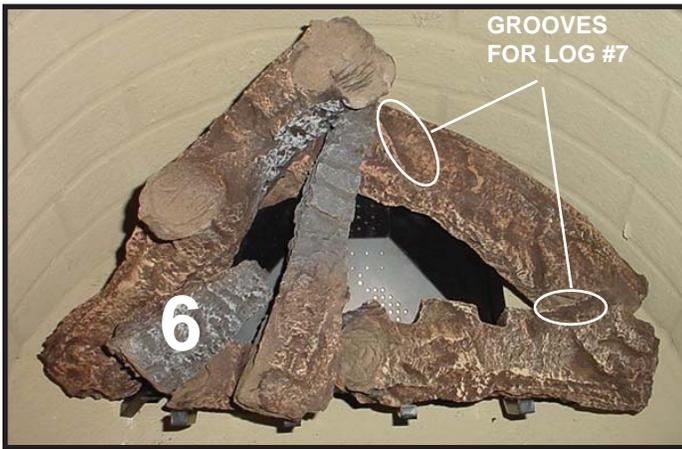

Figure 12.14
- Unscrew the two top wing bolts and unlatch the two bottom spring clips (see Figure 12.14).